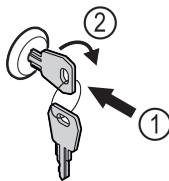

Fig. 160
- ▶ Insert the key. Fig. 160 (1)
- ▶ Turn the key clockwise by 90°. Fig. 160 (2)